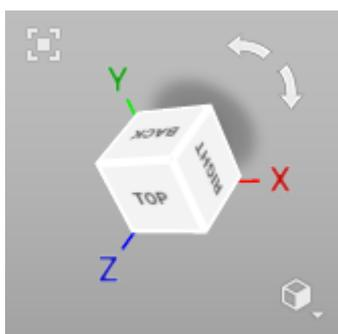

Figure 47: Navigation cube and arc arrows.
**Rotate** move the mouse pointer over the *3D View* window. While holding down LMB, move the mouse to rotate the model. To flip 3D data around a specific axis in a specific direction, use the dedicated arc arrows () near the navigation cube (see Figure 47).
If minimized, it can be opened by clicking button  in the *3D View* window (see Figure 47). All the commands for viewing and switching between modes are also available in the *View* menu.